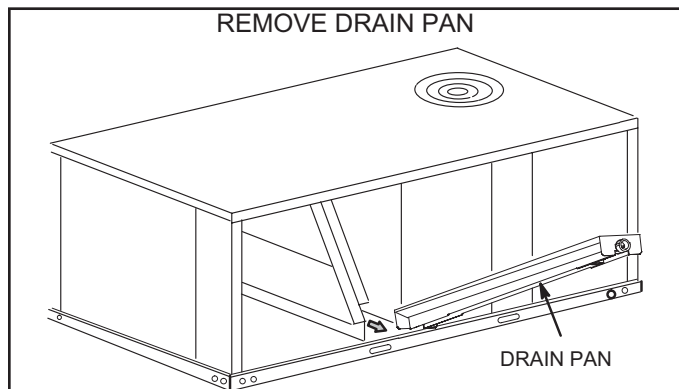

FIGURE 10
- 2 - List the front edge of the drain pan and slide pan out of unit. See FIGURE 10.
- 2 - Lift the front edge of the drain pan and slide pan out of unit. See FIGURE 10.